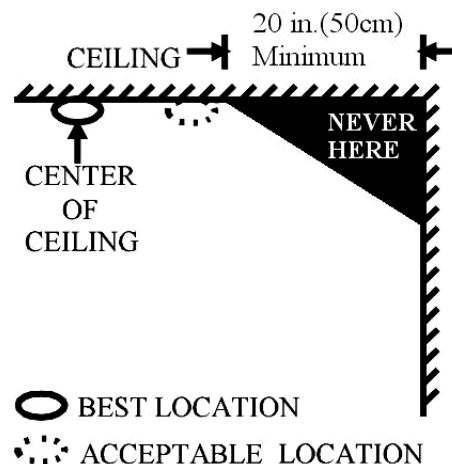

Fig. 4: Recommended best and acceptable locations to mount smoke detectors
- Install smoke detectors as close to the center of the ceiling as possible. If this is not practical, put the detector on the ceiling, no closer than 20 inches (50 cm) from any wall or corner, as shown in **Fig. 4**.
- Dead air spaces are often at the top of a peaked roof, or in the corners between ceilings and walls. Dead air may prevent smoke from reaching a detector. See **Fig. 4 and 5** for recommended mounting locations.